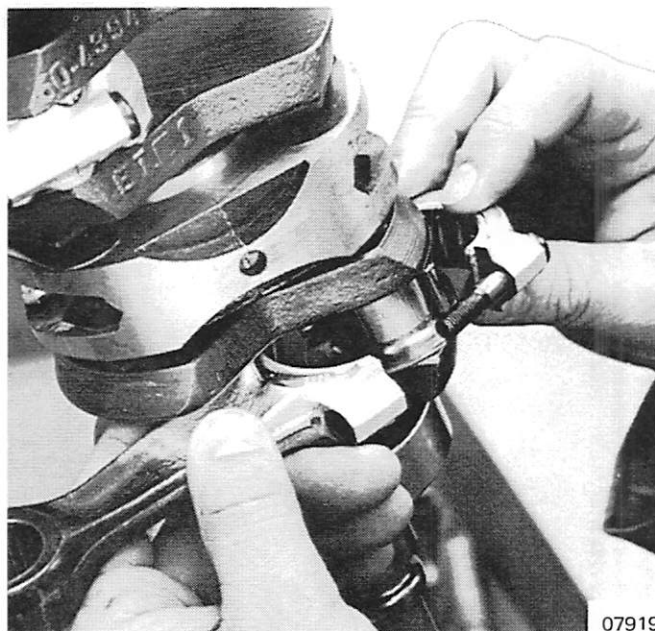

Figure 4. Removing Connecting Rod
6. Remove connecting rod nuts and bolts and remove rod caps and connecting rods, bearings and cages. (Figure 4) Keep rod caps, connecting rods and bearings together.